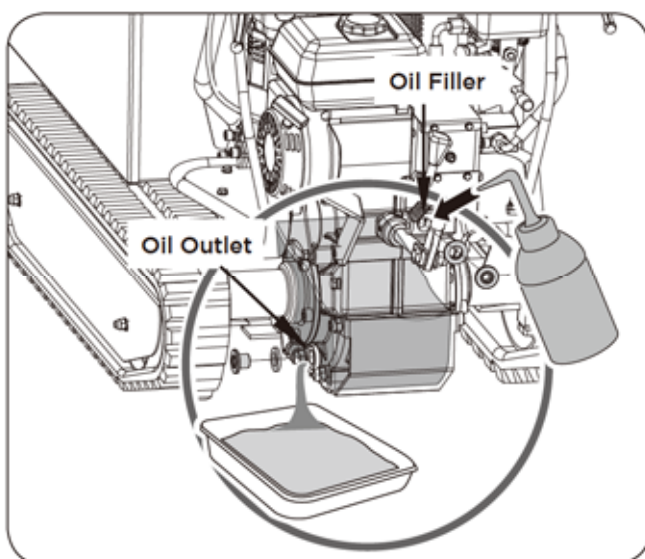

Figure 8
- » Transmission oil must be replace when engine is stopped and warm by unscrewing filler cap and drain plug. When oil is completely drained, replace filler cap and fill up with fresh oil. (See **Figure 8**)